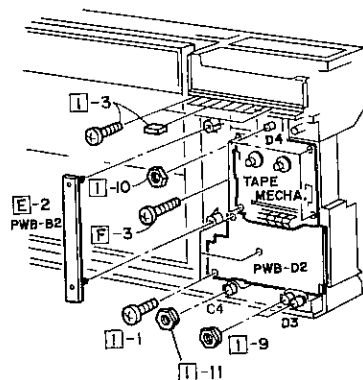

Figure 5-2
2. Remove two holders from the P.W. Board (PWB-B2) shown in Figure 5-2.
3. Remove four screws from the tape mechanism shown in Figure 5-2 and counter belt, and take the mechanism off.
- Remove three screws from the P.W.B. shown in Figure 5-2, and take it off.
- Remove seven function selector buttons shown in Figure 5-2 from the left side by using a screwdriver, without injuries to the buttons. Then remove two screws and dial cord.
- Remove two nuts from the P.W.B. shown in Figure 5-2, and take it off.
- Remove one nut from the P.W.B. shown in Figure 5-2, and take it off.
- Remove one nut from the headphone jack shown in Figure 5-2. Then take the headphone jack P.W.B. off.